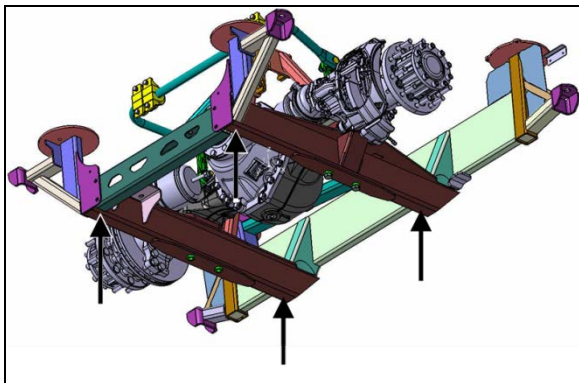

FIGURE 13: SUPPORT THE DRIVE AXLE SUBFRAME AT THE FOUR LOCATIONS SHOWN
8. Install jack stands under the drive axle subframe at the four locations shown on **FIGURE 13**.